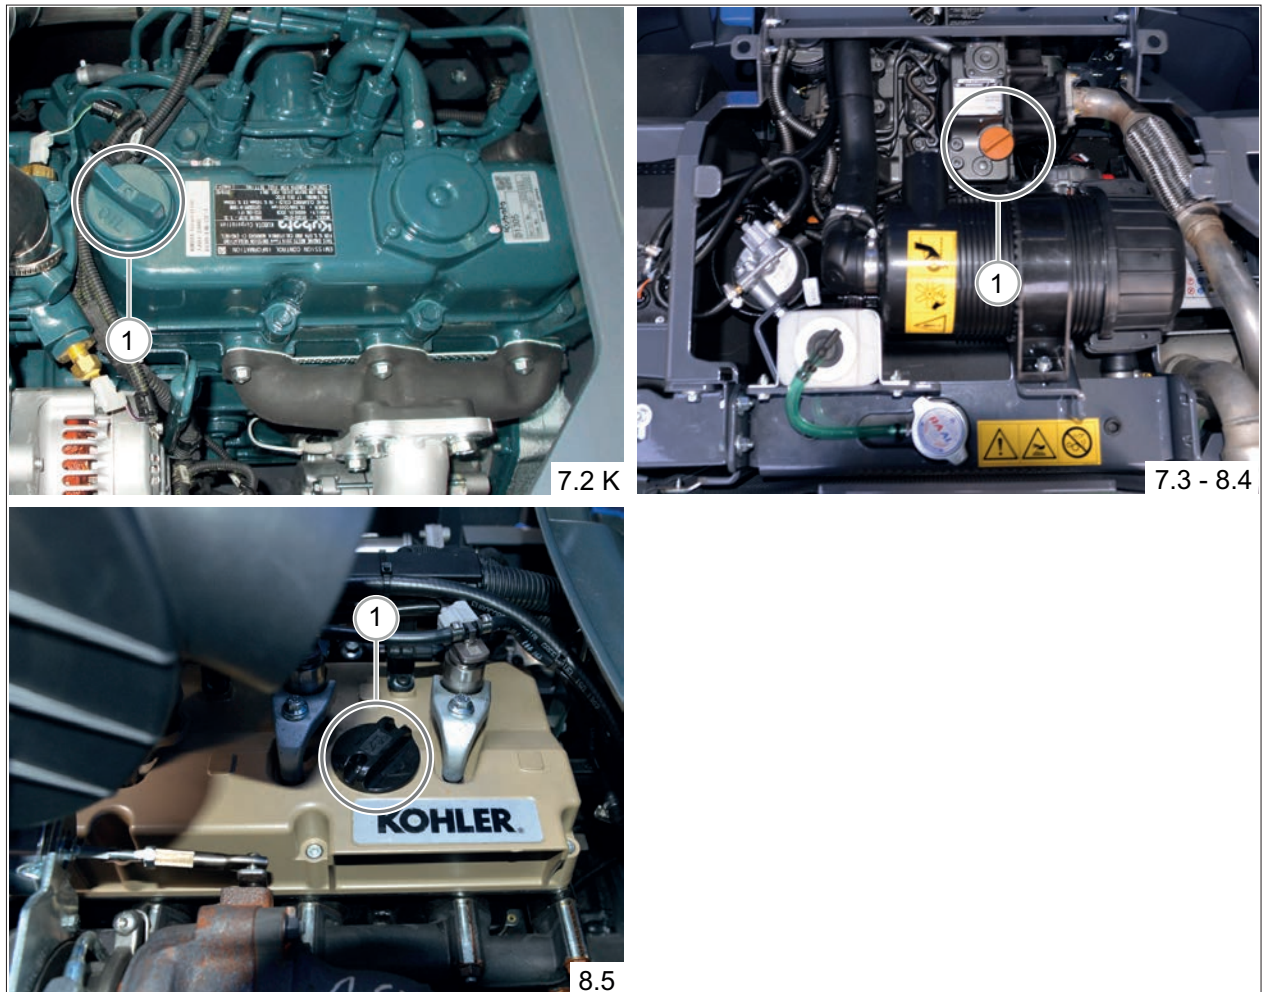

FIG. 53
- Open the cap of the engine oil filler (FIG. 53 - Ref. 1);